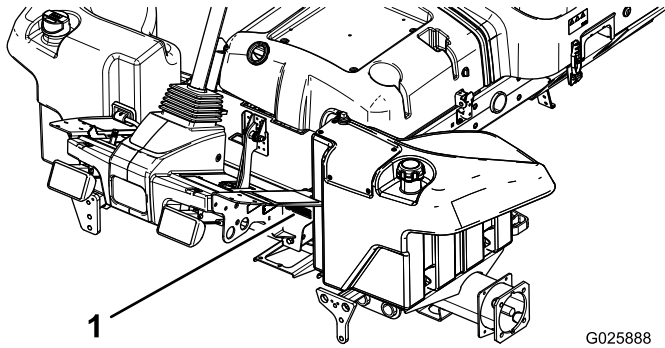

Figure 14
1. Punch out the month and year of the traction unit manufacture on the Toro emissions decal, then place the decal on the operator platform (Figure 14).